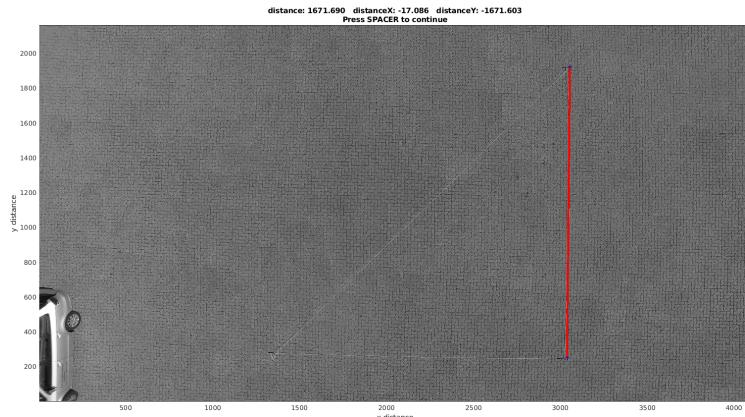

Figure 3.10: Right click in the starting and end 10 meters line.
4. Define a known distance: Make a mouse Right click in the first corner, and then Right click again in the end corner. The following figure 3.10 will be displayed.